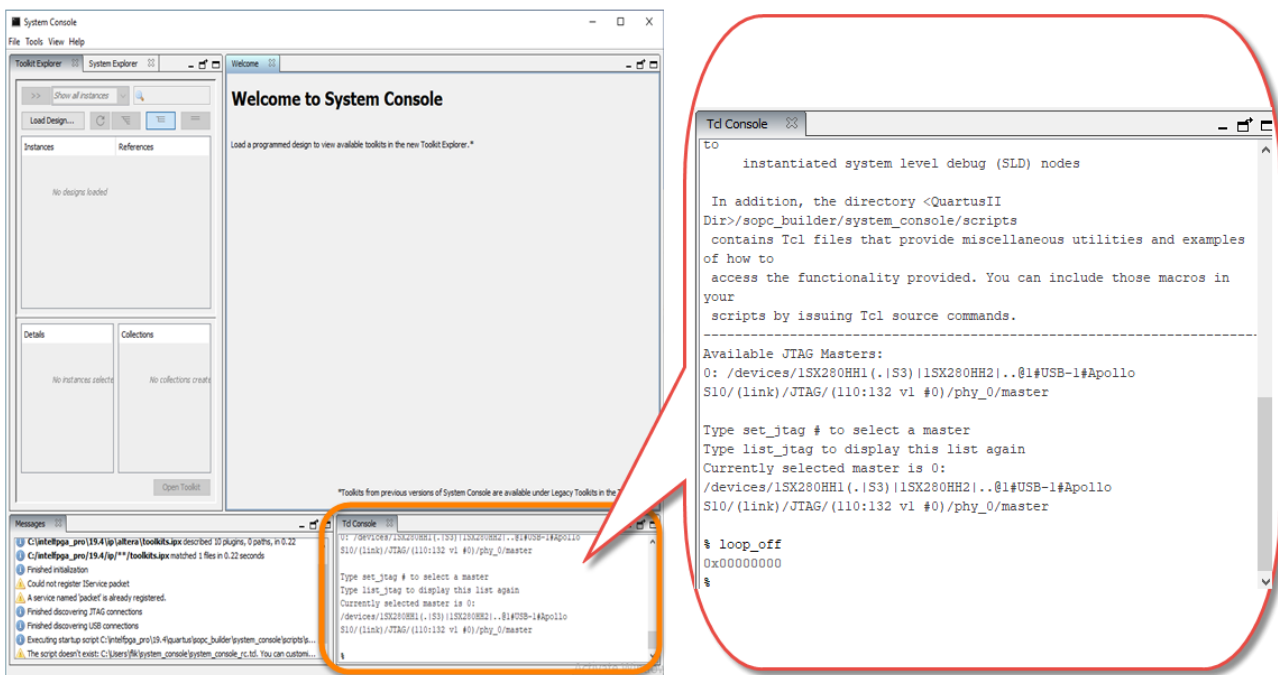

Figure 6-6 Enter command for test
- If you have a QSFP28 loopback fixture installed, type “**loop_off**” to turns off internal serial loopback. Otherwise, type “**loop_on**” to turn on internal serial loopback(See Figure 6-6).